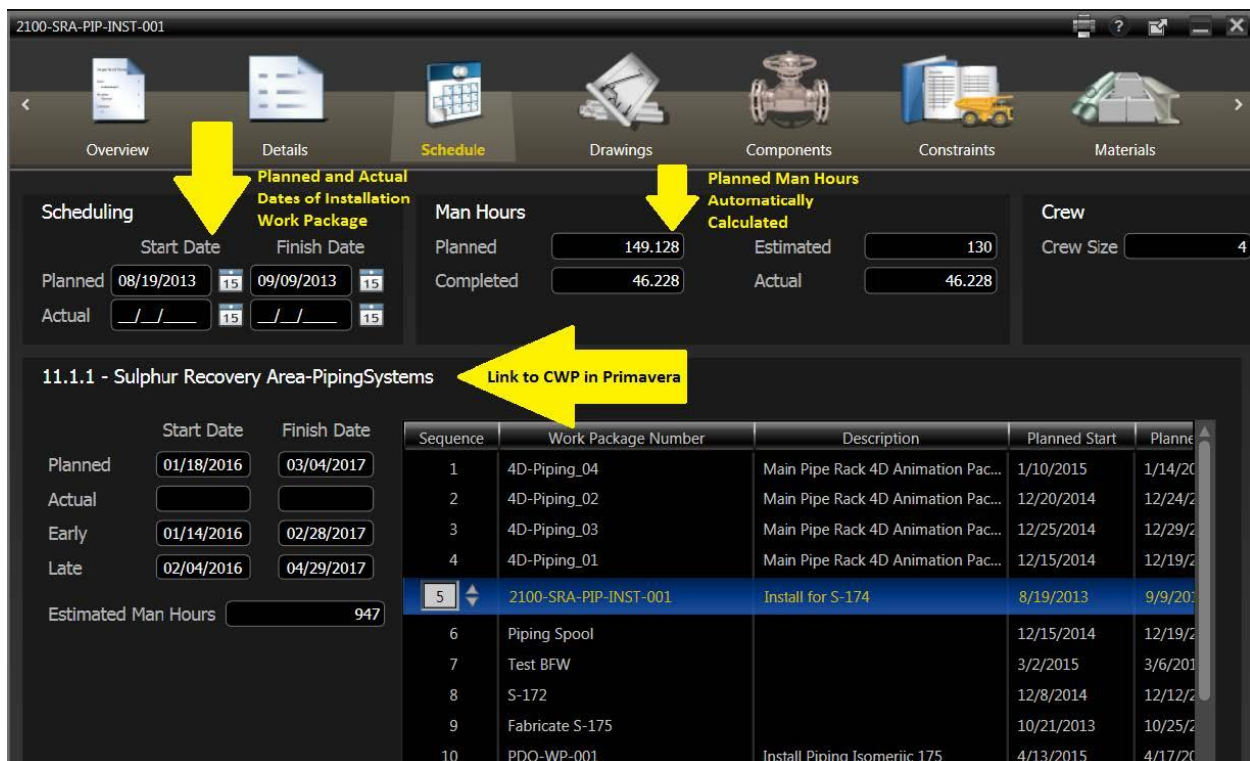

Figure 2: Smart Construction enables work packages to be created and linked for a clear workflow.
- Work packages created using work breakdown structure (WBS), as illustrated below in Figures 2 and 3